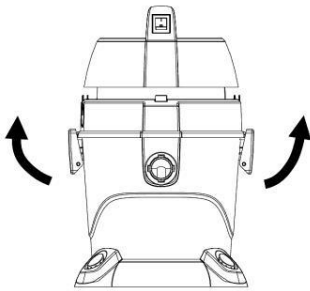

Fig.1
Step 1: Release the side latches and remove the main body (Fig. 1).